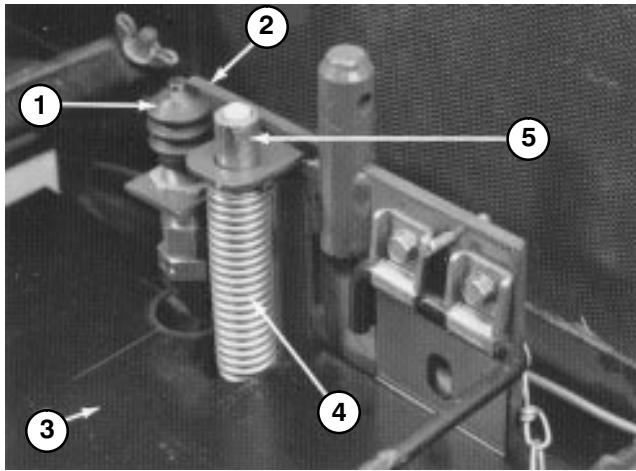

Figure 6
- (Model 30741 only) Remove flange screw and locknut securing sealing plate, over fuel tank, to frame (Fig. 6). Remove sealing plate.
- Insert pin part way into hole in top of seat support bracket on machine (Fig. 6).